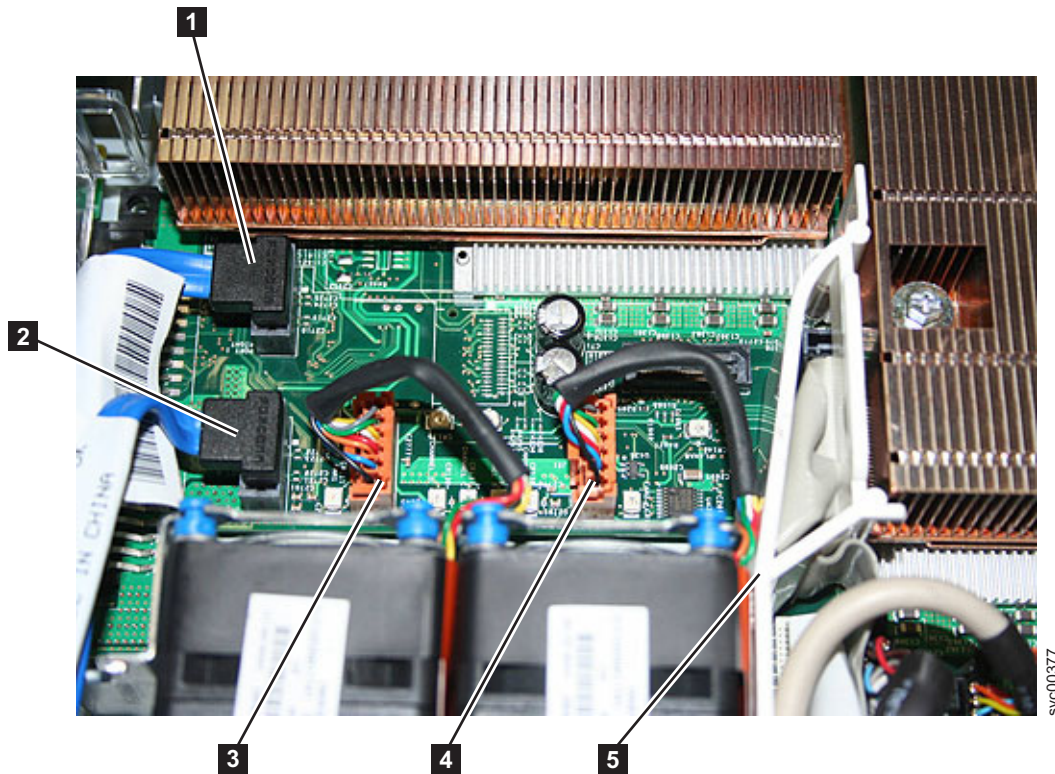

Figure 271. Connectors on the SAN Volume Controller 2145-8G4 system board
6. Disconnect the first set of cables from the system board, which are shown in Figure 271 on page 249. From the left front side of the system board, remove the following: